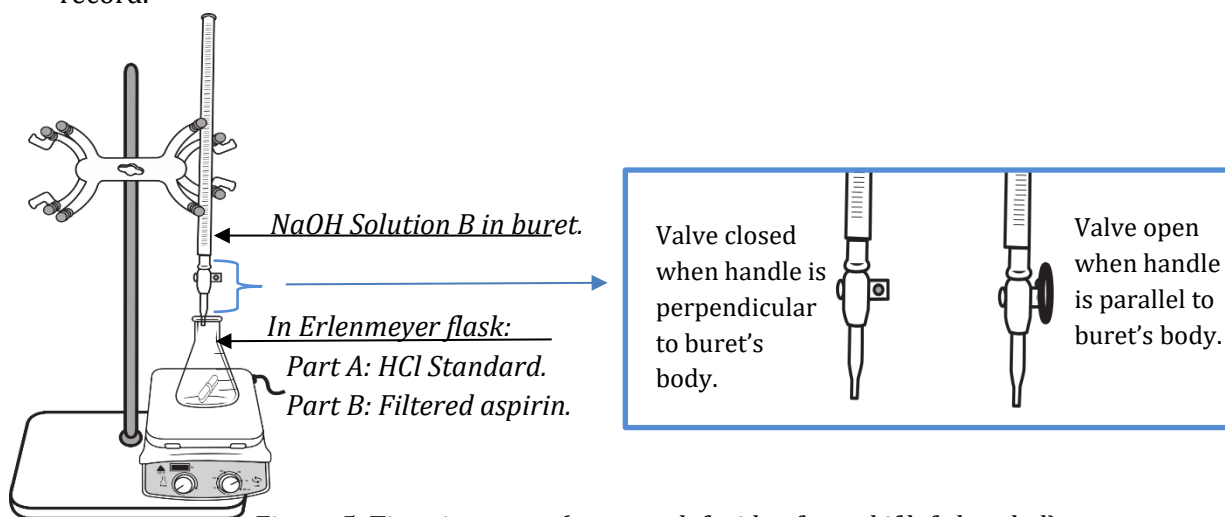

Figure 5. Titration setup (setup on left side of stand if left-handed).
- b) Place the buret clamp on the stand, and position the magnetic stirrer so that the buret may be suspended as close as possible over the center of the magnetic stirrer. See Figure 5.